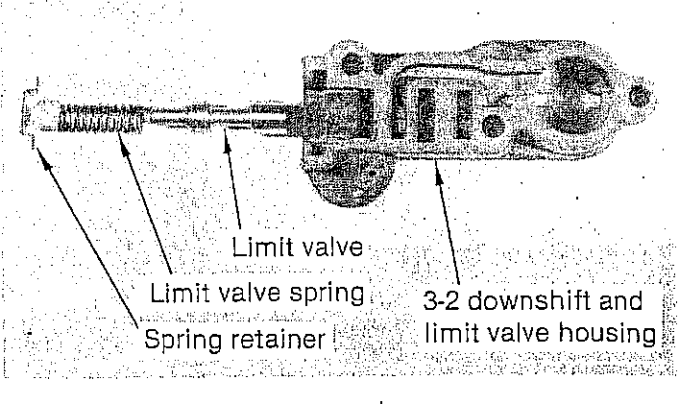

FIGURE 38
**STEP 8. Limit Valve Spring:** Some '71 and later-727 units have a part throttle kick-down assembly located in the end plate and housing previously removed to expose the shift valves. (See Fig. 38) By installing the special black spring supplied with the kit, you can limit the operation of the valve to below 35-40 mph. This is recommended for all camper type vehicle, police and taxi use. Remove retainer and stock spring. Install black spring and retainer as removed.